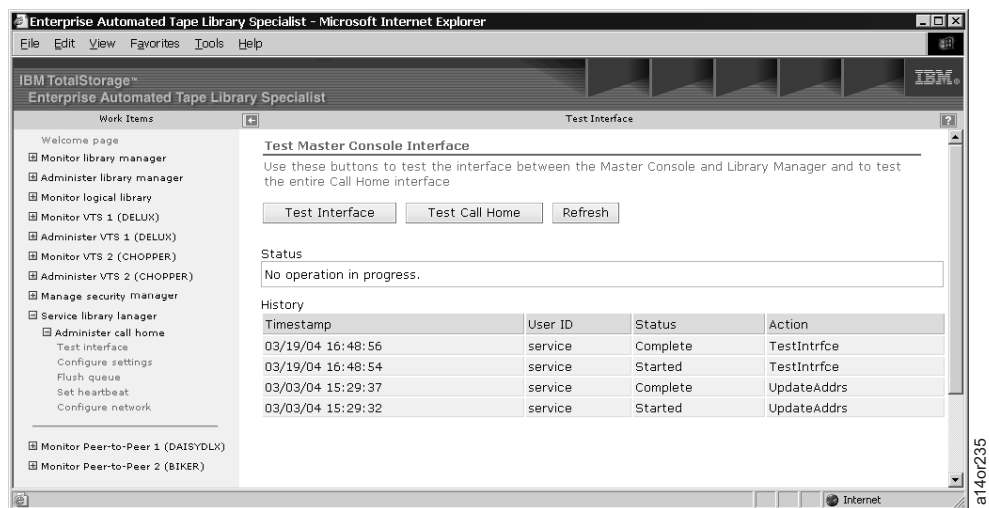

Figure 54. 3494 ATL Web Specialist - Test Interface
1. From the "Administer call home" list on the Web Specialist screen (Figure 53), click **Test interface** to see the options shown in Figure 54 on page 44. If you are prompted for a username and password, use the default values of **service** for the username and **service** for the password. These values can be changed by the 3494 ATL system administrator.
From this screen (Figure 54 on page 44), you can test the (network) interface between the LM and the TSSC (from the perspective of the LM).